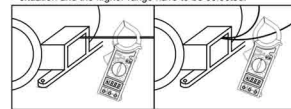

Fig1
1. Set the rotary switch at desired A – range position. Press the trigger to open the transformer jaws and clamp onto one conductor only (Fig 1). The transformer jaws pick up the AC current flowing through the conductor.